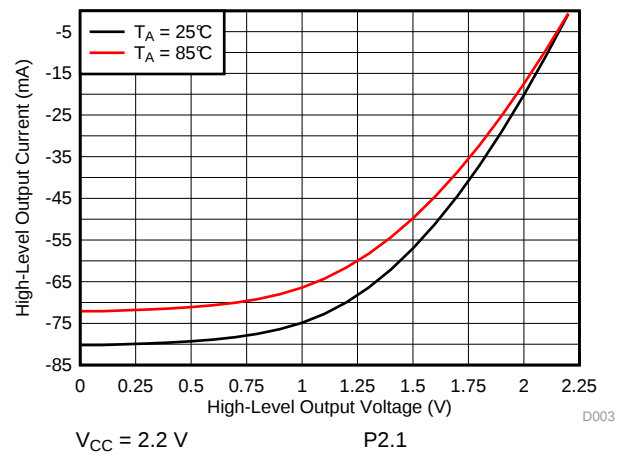

图 5-25. High-Level Output Voltage vs High-Level Output Current
| V OH High-level output voltage (see 图 5-25 and 图 5-26)     | I (OHmax) = –5 mA (1)                                          | 2.2 V           | V CC – 0.25 | V CC        | V    |